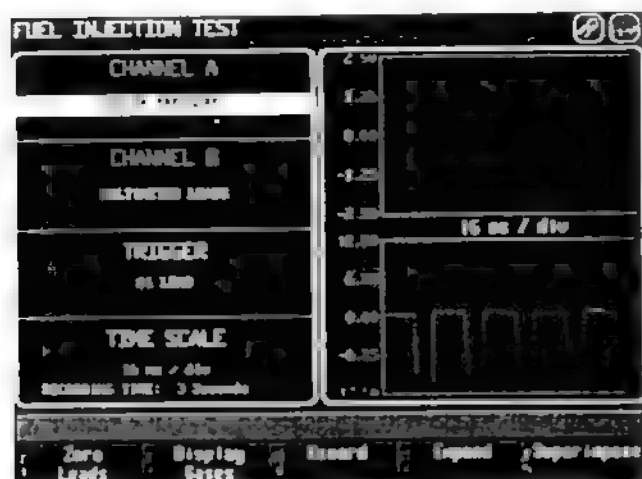

Figure 3-14
3. Start the engine. Select the *Fuel Injection Test* from the *Fuel System* menu. The *Fuel Injection Test* screen appears (see Figure 3-14).
Look at the patterns which appear in the meters. If the fuel pressure pattern looks smooth or appears as a nearly straight line, bleed the air out of the fuel system. Drain any excess fuel into a proper container. Repeat the procedure until fuel pressure pattern looks well-defined, as shown in Figure 3-14.